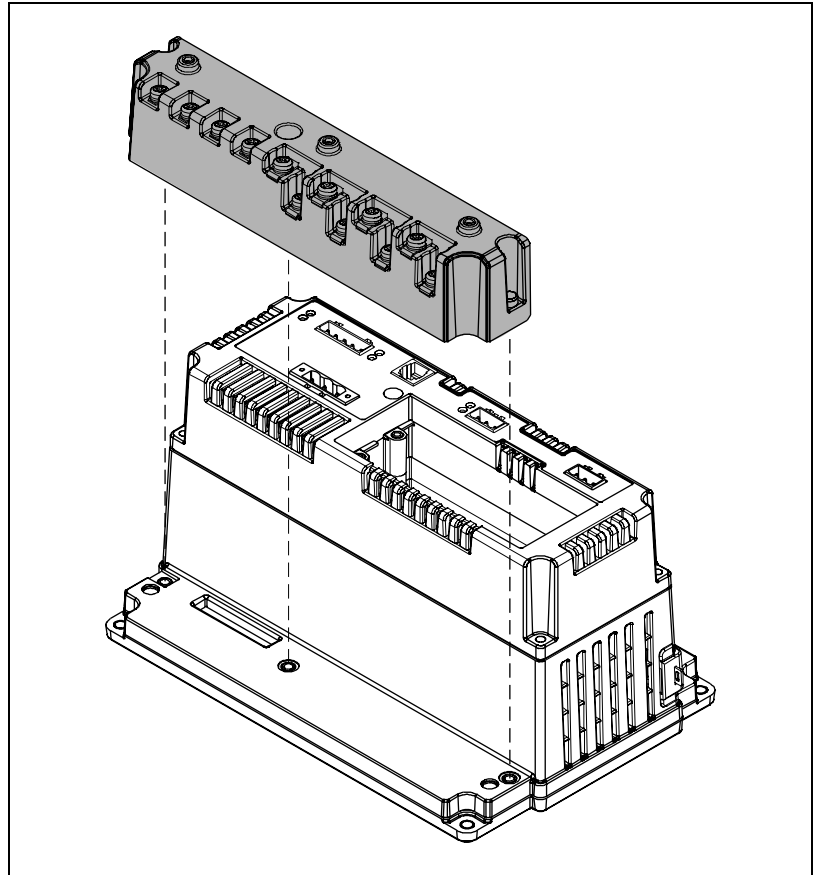

Figure 4–11 Removal of Current/Voltage Module (CVM)
- a. Disconnect the metered voltage by removing the fuses from the potential transformer (PT) or disconnecting the voltage disconnect switch.
- b. Short circuit the current transformer (CT) secondaries to disconnect the metered current.
3. Pull the CVM straight up until it disengages from the circuit monitor as shown in Figure 4–11.